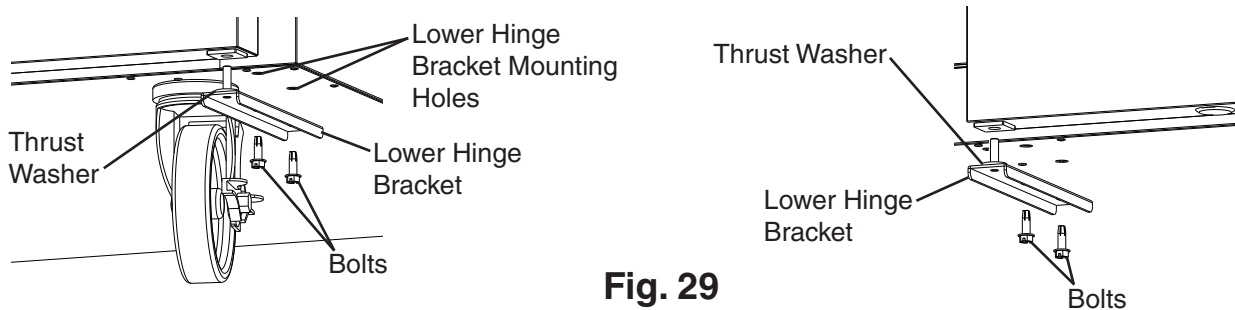

Fig. 29
- 12) Remove the lower hinge bracket. See Fig. 29. Be sure to leave the thrust washer in place.